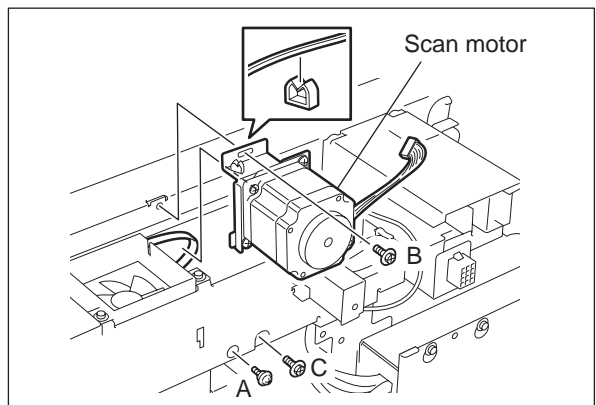

Fig. 6-32
1. Fix the screw A. ( P.6-22 "Fig. 6-32 ")
2. Temporarily fix the screw B and C. ( P.6-22 "Fig. 6-32 ")